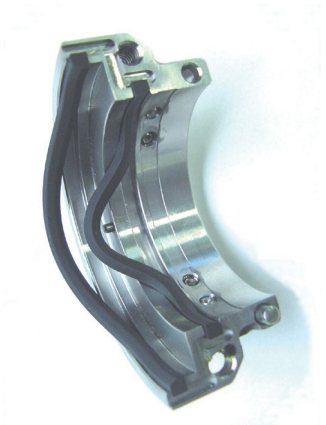

Figure 11
- 3.8 Push the draped middle of the sleeve gasket and rotating face gasket into their grooves. **Do not** apply adhesive. See Figure 11.